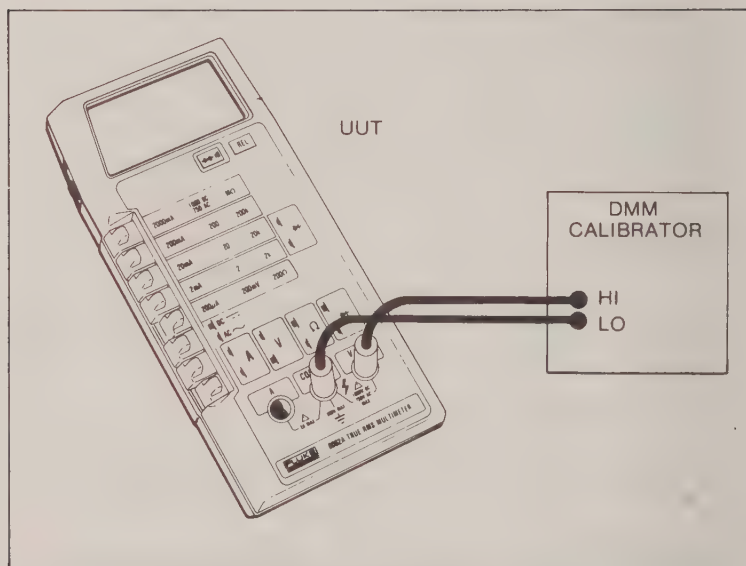

**Figure 4-4. General Equipment Connection**
1. Connect the UUT and the DMM Calibrator as shown in Figure 4-4.
3. Connect the equipment as shown in Figure 4-4 and turn on the equipment.
4. On the UUT, select the dc voltage function and the 2 volt range. Turn R6 fully clockwise (CW), and turn R5 fully counterclockwise (CCW).